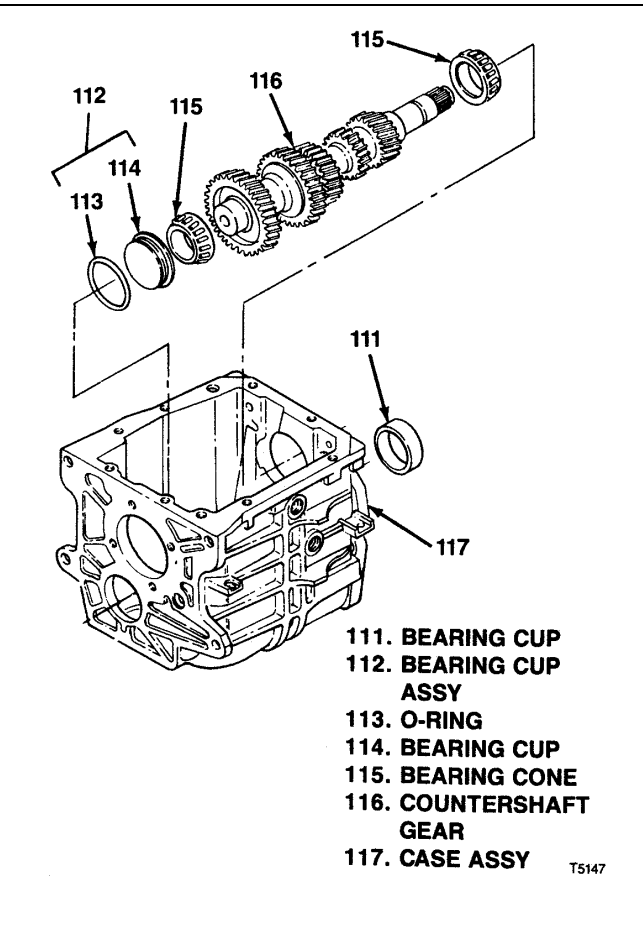

Figure 3-13. T5 WC Countershaft Gear
**3-19. REMOVAL OF T5 WC COUNTERSHAFT GEAR** (see figure 3-13):
- a. Push countershaft gear (116) rearward to force bearing cup (11) out of transmission case (117).
- b. Tilt from end of countershaft gear (116) up and remove from top of transmission case (117).
- c. Push bearing cup assembly (112) out of transmission case (117) and remove o-ring (113) from bearing cup (114).
- d. Use suitable puller to remove bearing cones (115) from countershaft gear (116) if necessary.
**3-20. DISASSEMBLY OF T5 WC 5TH SYNCHRONIZER ASSEMBLY.** Mark synchronizer sleeve (47) and hub (49) so that clutch teeth and faces can be assembled exactly as they were originally. Sleeve and hub are a matched set, selected at manufacture. Disassemble as follows (see figure 3-13):
- a. Unhook and remove springs (46).
- b. Slide sleeve (47) from hub (49), freeing inserts (48).